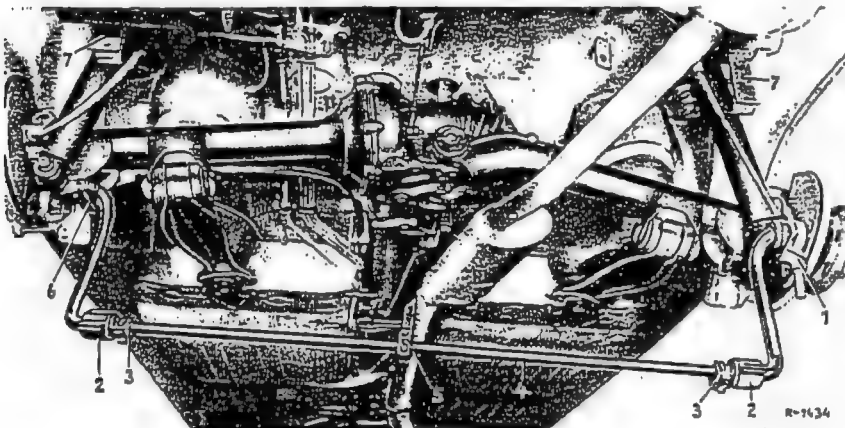

Fig. 32-9/5
16. Attach the torsion bar to the bearing bracket on the chassis base panel. If the retainers (7) had been detached previously, align the torsion bar and mount the retainers and fixing straps in such a way that they rest against the inner side of the rubber mountings without any play (Fig. 32-9/2).